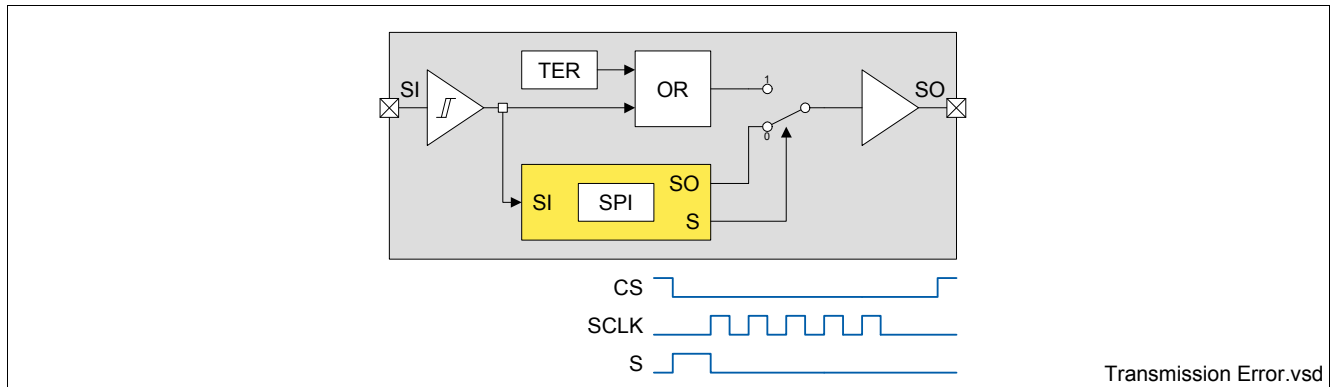

Figure 11 Transmission Error Flag on SO Line
- SO changes from high impedance state to high or low state depending on the logic OR combination between the transmission error flag (TER) and the signal level at pin SI. The transmission error flag is set after any kind of reset, so a reset between two SPI commands is indicated. For details, please refer to Figure 11. This information stays available till the first rising edge of SCLK.